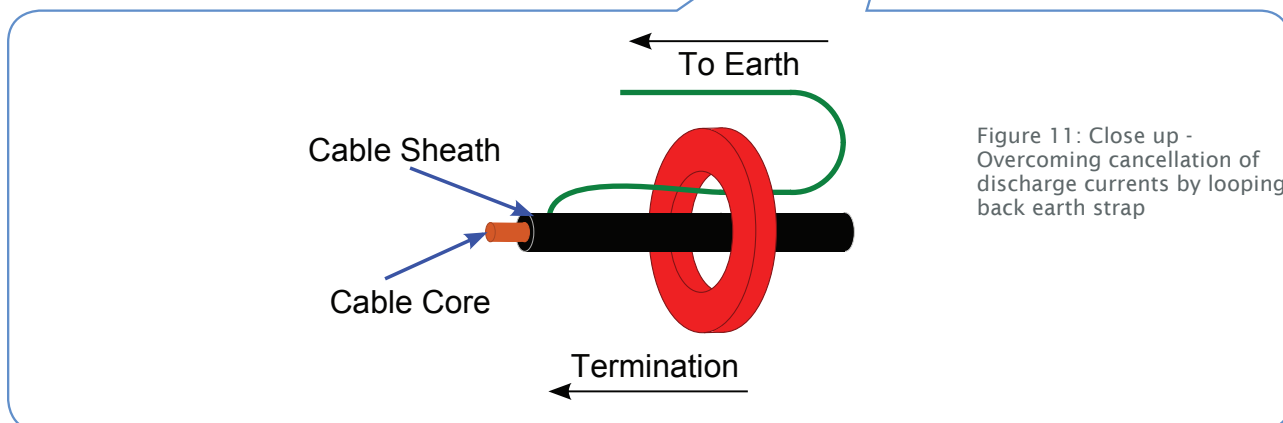

Figure 11: Close up - Overcoming cancellation of discharge currents by looping back earth strap
- iii. By monitoring the line conductor and earth within the sheathing and the earth cable external to the sheathing, when passed back through the RFCT (Figure F, close up Figure 11).
If the RFCT is placed over both the line conductor and earth cable at the same time, the discharge currents are cancelled. This is illustrated in Figure E. The method to counter this effect is shown in Figure F, and Figure 11. Figure C shows the preferred connection method, as the other connection methods should only be used for three phase cables, or single phase cables with a light load.